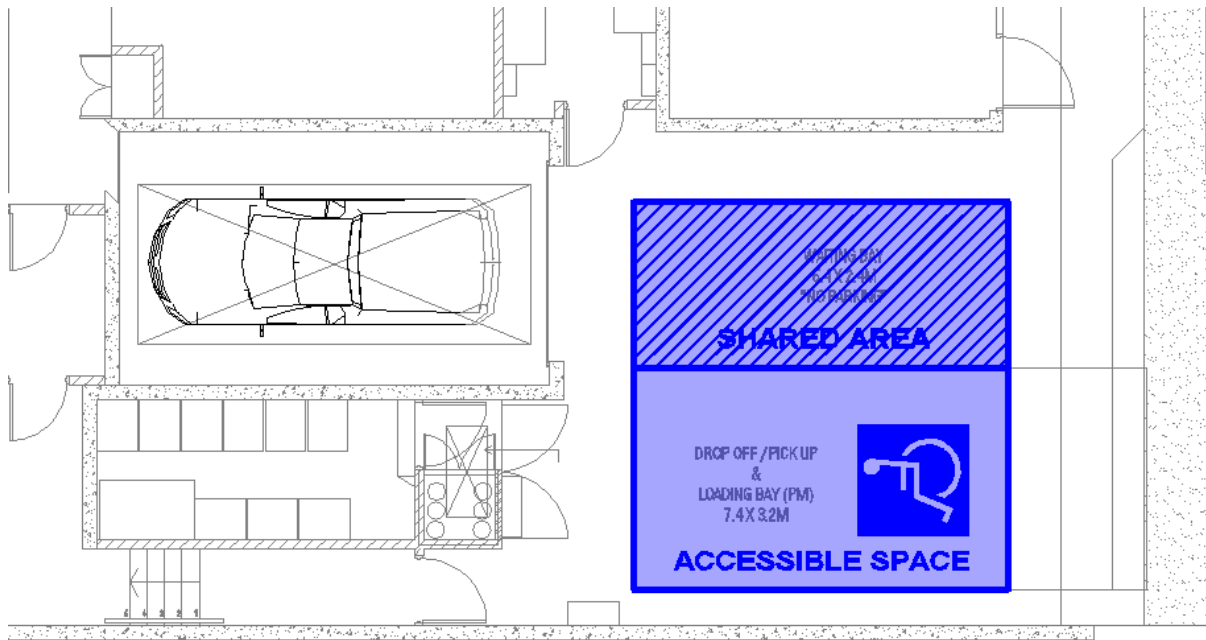

Figure 5: Loading Bay Configuration
- An accessible parking space with an adjacent shared area in accordance with AS2890.6 (2009) as shown in **Figure 5**.
The accessible parking layout shown in **Figure 5** will require full use of the ground floor waiting areas and will be a set-down and pick-up service assisted by the Valet. As such, a designated set-down period will be allocated between 9:00am and 9:30am, whilst a designated pick-up period between 10:30am and 11:00am will allow for the undivided attention of the Valet.